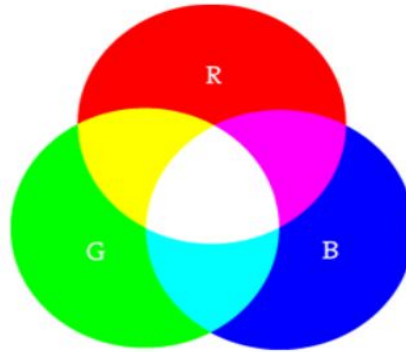
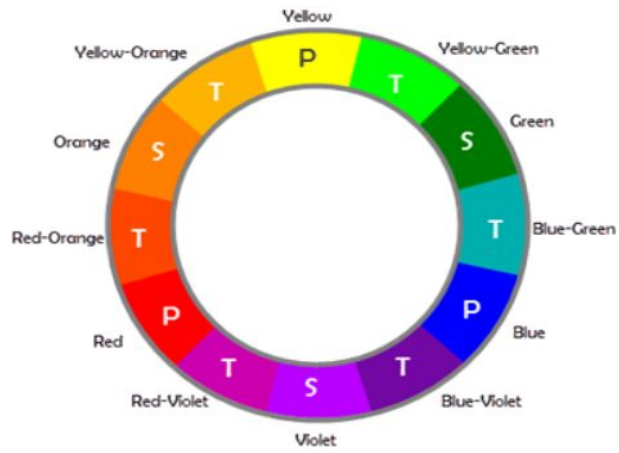

Figure 4: Creating colors from RGB.
Figure 6: Primary, secondary and tertiary Colors
3. Write code to display different colors (for example the seven colors shown in figure 4 or the colors shown in figure 6) gradually in a cycle.